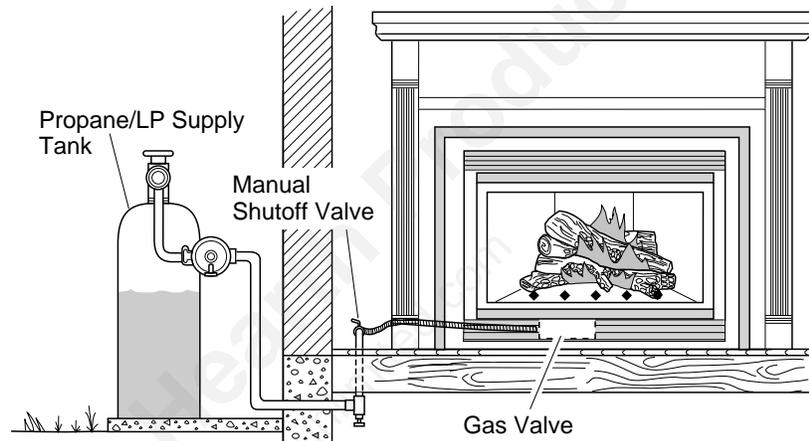
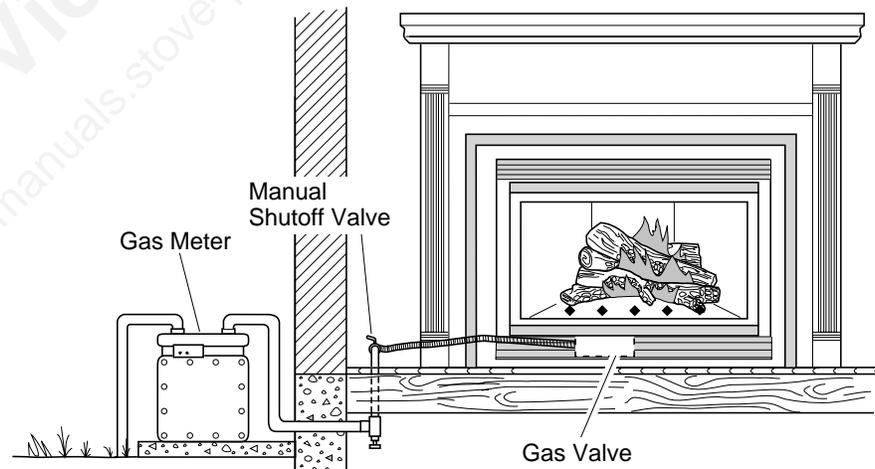

Figure 38 - Checking Gas Joints for Propane/LP Gas Fireplace
Figure 39 - Checking Gas Joints for Natural Gas Fireplace
3. Check all joints from propane/LP supply tank or gas meter to manual shutoff valve (see Figure 38 for propane/LP or Figure 39 for natural). Apply commercial leak test solution to all gas joints. Bubbles forming show a leak. Correct all leaks at once.
4. Check all joints from manual shutoff valve to thermostat gas valve (see Figure 38 for propane/LP or Figure 39 for natural). Apply commercial leak test solution to all gas joints. Bubbles forming show a leak. Correct all leaks at once.